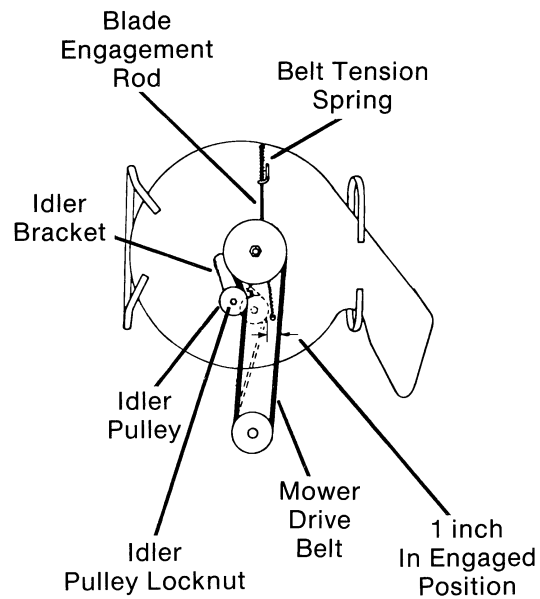

FIG. 18
- Looking through the slot, at the rear of main frame between support bars, towards front of rider. Check minimum clearance between the two sides of mower drive belt. (Fig. 18)